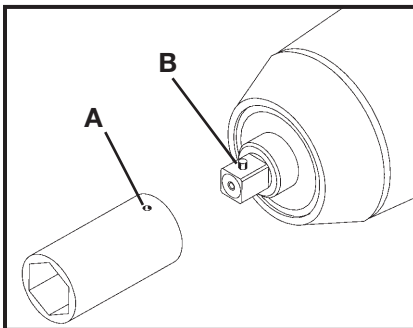

Fig. 2
2. Align hole (A) Fig. 2, in impact socket with anvil detent pin (B) Fig. 2.
3. Depress detent pin while pushing impact socket onto anvil until detent pin snaps into hole (A).